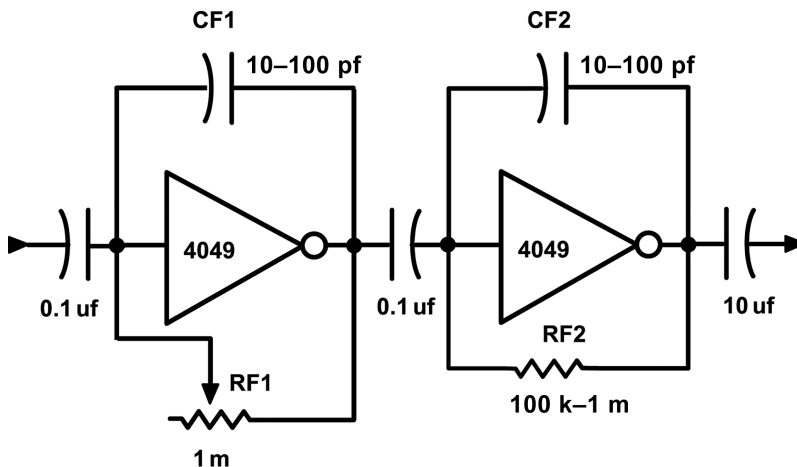

Figure 19.7 Distortion with feedback capacitors added.
- Various feedback capacitors, from 10 pf to 100 pf, for CF1 and CF2, in parallel to RF1 and RF2. These values can be set with fixed values or made switch selectable, as suggested prior for our simple EQ circuit (Figure 19.7).